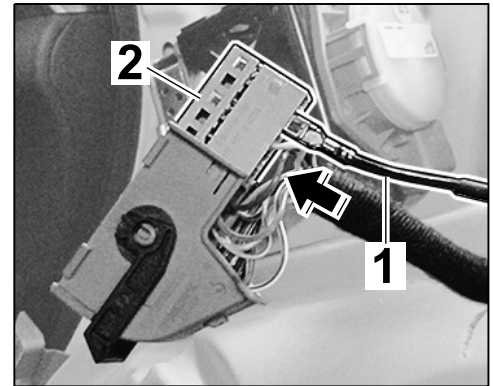

Figure 36
- 4.6.7 Insert socket contact ⇒ *Figure 36 -1-* into chamber A2 of the grey plug socket ⇒ *Figure 36-2-*.